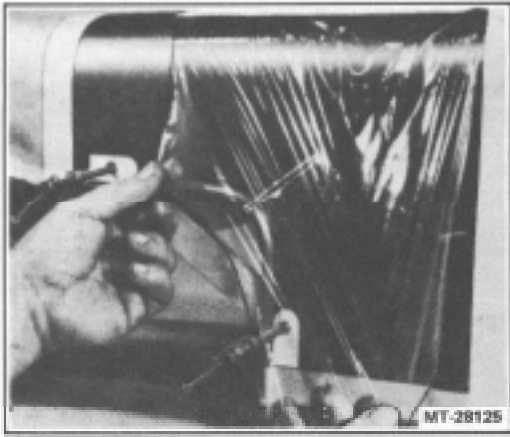

Figure 26. - Covering Repair Area with Separating Film
4. Cut a piece of plastic separating film large enough to extend approximately 3 inches beyond the edge of the repair area. Tape the film to the outside repair surface (Figure 26).